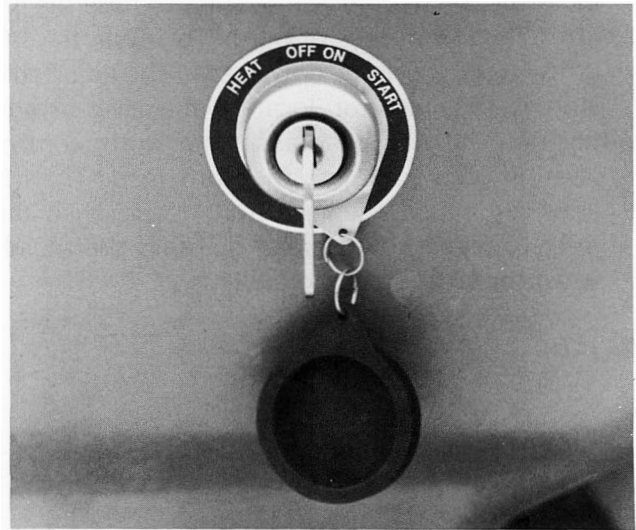

Figure 20 — Key Switch
3. Turn the key switch to the "start" position, Figure 20. When the engine starts, release the key. Check to be sure the warning lights go out. If the engine fails to start after cranking for approximately 10 seconds, refer to the following "COLD WEATHER STARTING" information.
Push the hand throttle fully forward past idle position to stop the engine, then turn the key switch, Figure 20, to the "Off" position.